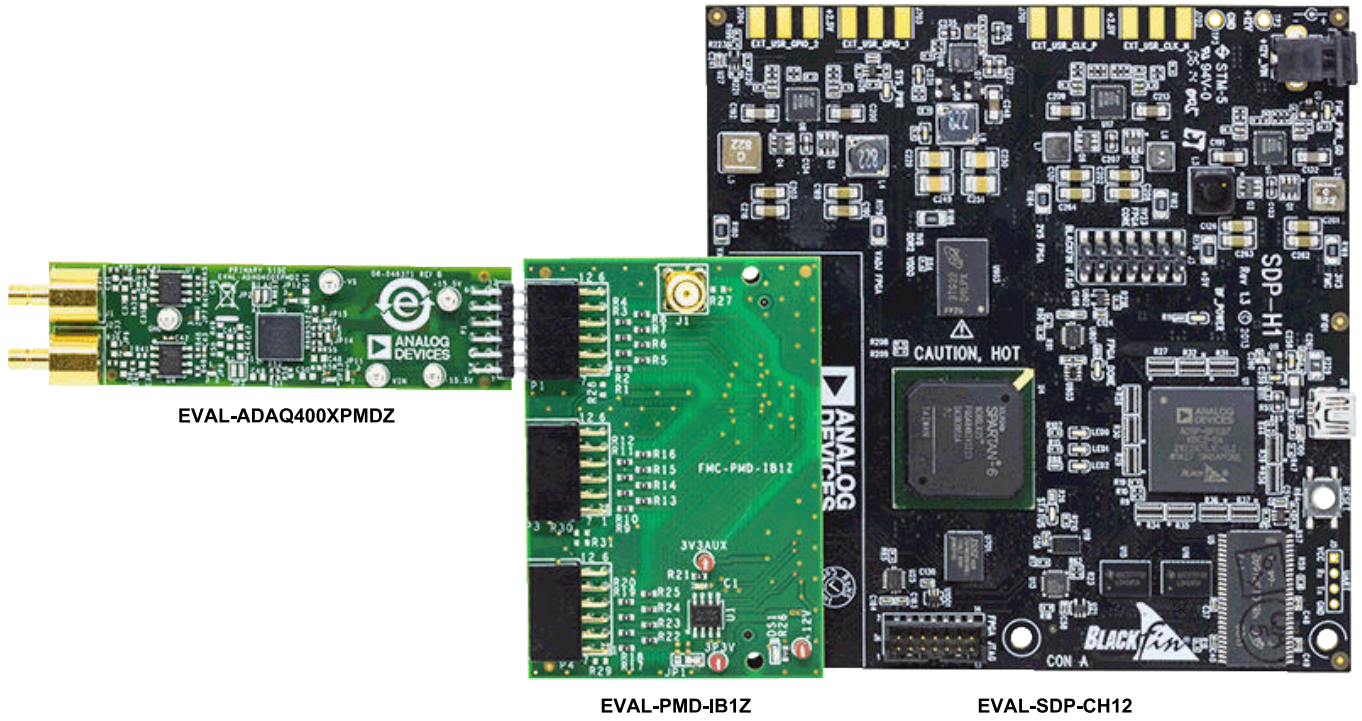

Figure 1.
The ADAQ4001 and ADAQ4003 μ Module® data acquisition system evaluation kit (EVAL-ADAQ4001FMCZ/EVAL-ADAQ4003FMCZ) contains the EVAL-ADAQ4001PMDZ or EVAL-ADAQ4003PMDZ peripheral module (Pmod) board and the EVAL-PMD-IB1Z Pmod to field programmable grid array (FPGA) mezzanine card (FMC) interposer board that interfaces with the system demonstration controller board (EVAL-SDP-CH1Z) via a 160-pin FMC connector, as shown in Figure 1.
stration platform (SDP-H1) to capture the data via a graphic user interface (GUI) (see Figure 1). The SDP-H1 requires power from a 12 V wall adapter. The SDP-H1 has a Xilinx[®] Spartan[®]-6 and an ADSP-BF527 processor with connectivity to the PC through a USB 2.0 high speed port.
1. Connect the EVAL-ADAQ4001PMDZ or the EVAL-ADAQ4003PMDZ to the EVAL-PMD-IB1Z interposer board at the P1 header (see Figure 1).